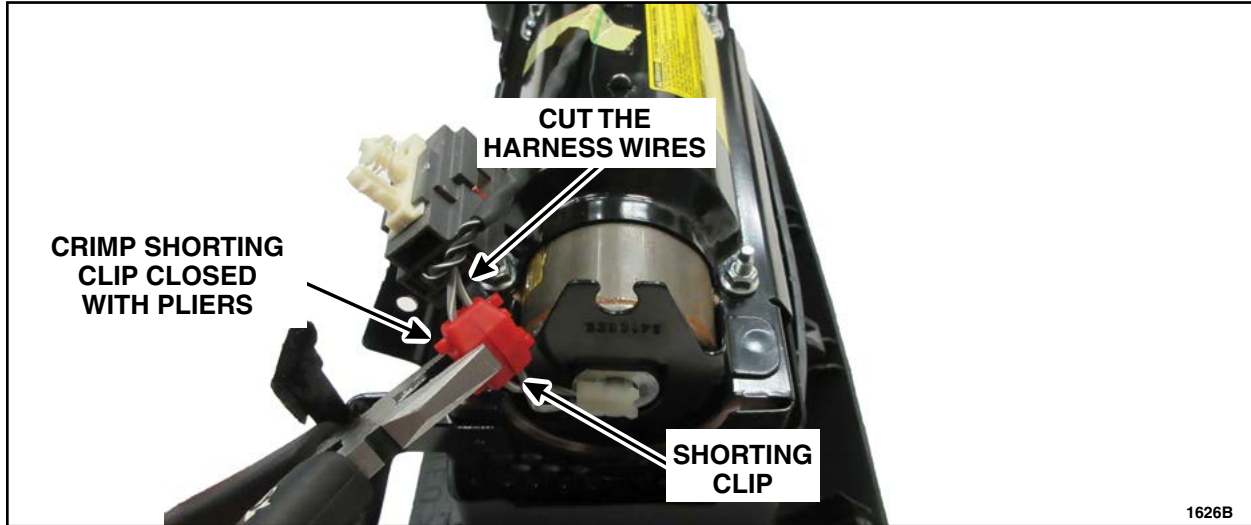

FIGURE 4
3. Position the shorting clip onto the harness wires, and crimp the shorting clip together one side at a time using pliers. See Figure 4.
4. Cut the harness wires between the shorting clip and the harness connector. See Figure 4.